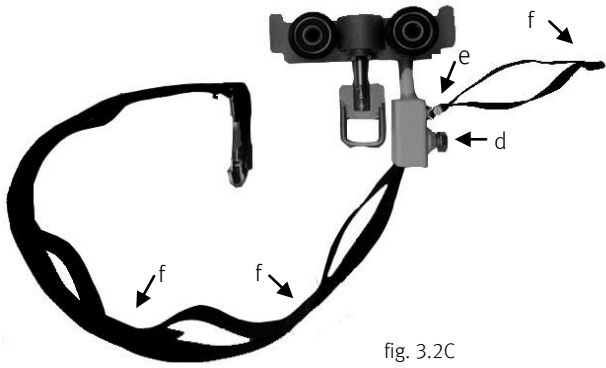

fig. 3.2C
Note: It may be necessary to adjust the length of the strap (see fig. 3.2C).
- 2) The strap is placed in the correct position and the bolt (e) is placed in the corresponding loop (f) (see fig. 3.2C).